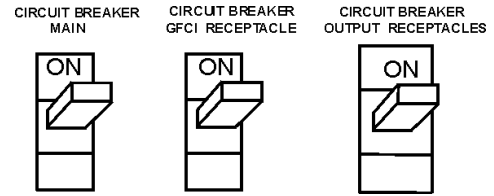

Figure 48. Main and GFCI Circuit Breakers
16. Turn the MAIN, GFCI and LOAD circuit breakers to their "ON" position (Figure 48).